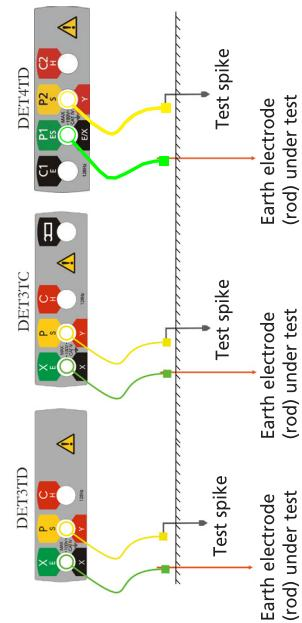

Figure 2: Connections for measuring ground noise voltage and two-terminal resistance.
1. With the selector switch set to the 'OFF' position, connect the instrument as shown in Figure 2.
1. With the selector switch in the 'OFF' position connect the instrument as shown in Figure 2, but connected to the part of the installation you wish to test.